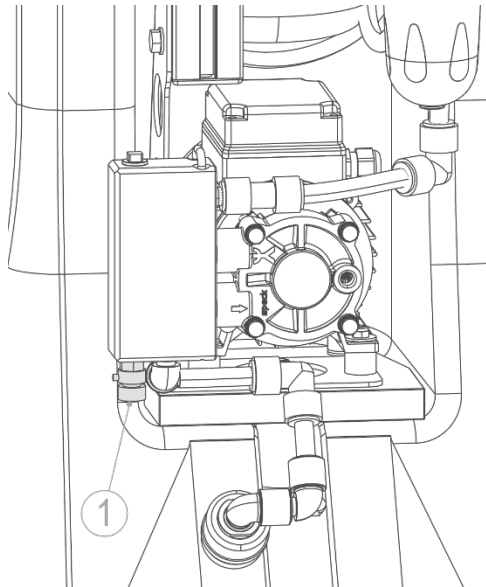

Fig. E-3: Venting pressure booster
- The pressure booster pump is vented when permeate flows out of the venting/sample valve (refer to fig. E-3, no. 1). Close the vent valve.